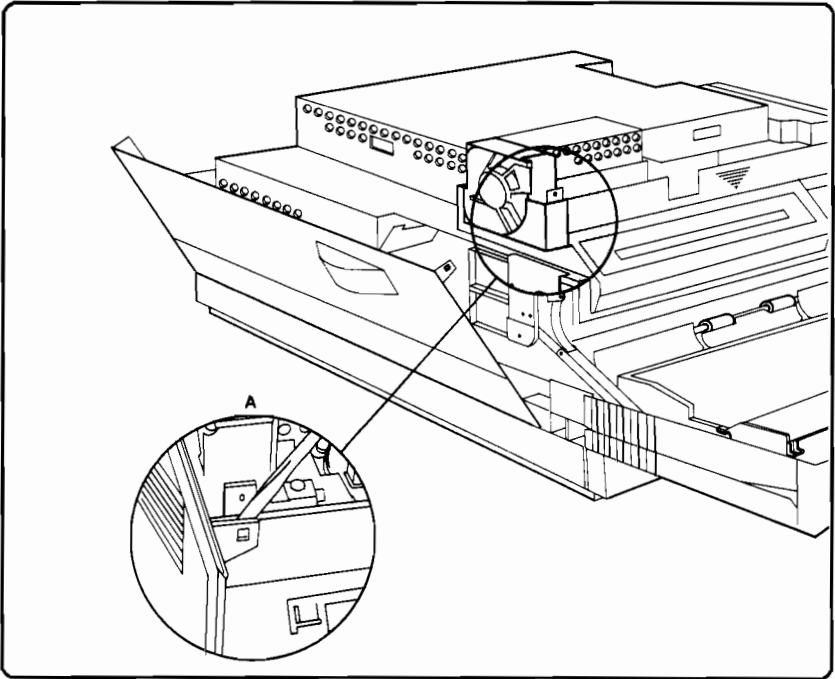

Figure 6-22. Left Side Cover Removal
2. Use a small flat-head screwdriver to unlatch the Left Side Cover (see Figure 6-22, detail A).
1. Remove the Top Cover and Left Side Cover (Figure 6-16, Figure 6-17, and Figure 6-22).